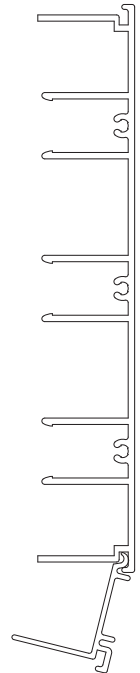

Figure 29
7. Insert tail piece and rotate outwards until they are locked into place (See Figure 29)